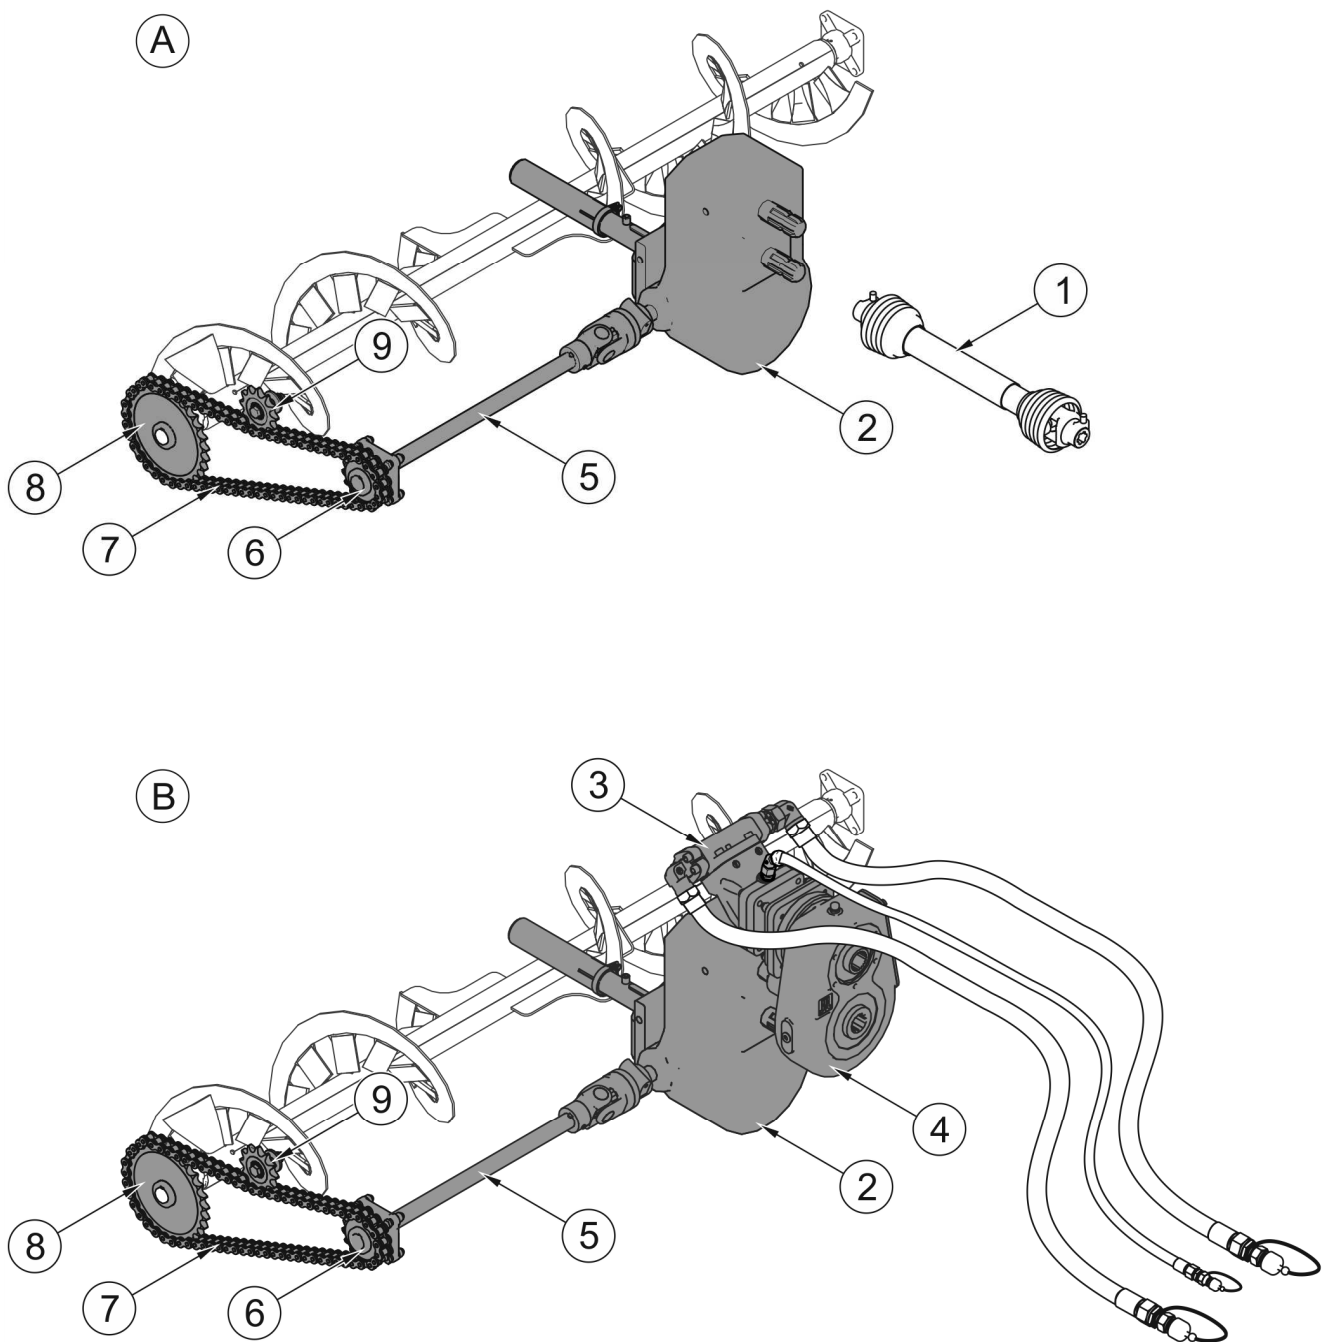

FIG. 3.2 Design of drive transmission system
In case of OW2.1M snow blower (A, FIG. 3.2), the drive is transmitted from the carrying vehicle's PTO shaft through PTO drive shaft (1) to main transmission (2). In case of OW2.1H snow blower (B, FIG. 3.2), main transmission (2) is driven by hydraulic motor (3) and reducer (4) supplied from the carrying vehicle's hydraulic system. Rotor is driven directly by transmission (2), whereas the augers are driven by PTO drive shaft and chain transmission consisting of a driving sprocket (6), chain (7), two driven sprockets (8) and tensioner (9).